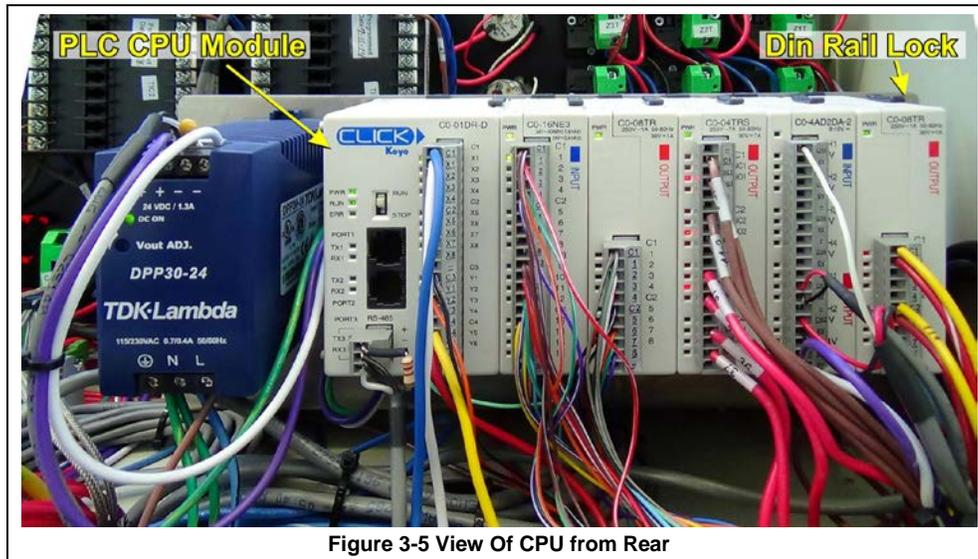

Figure 3-5 View Of CPU from Rear
3.4.1 Click CPU module is located to left of PLC rack. See figure 3-5
- a) Use a flat screwdriver to loosen Din Rail Lock at far right of PLC (fig 3-5).
- a) Use a flat screwdriver to tighten Din Rail Lock at far right of PLC (fig 3-5).